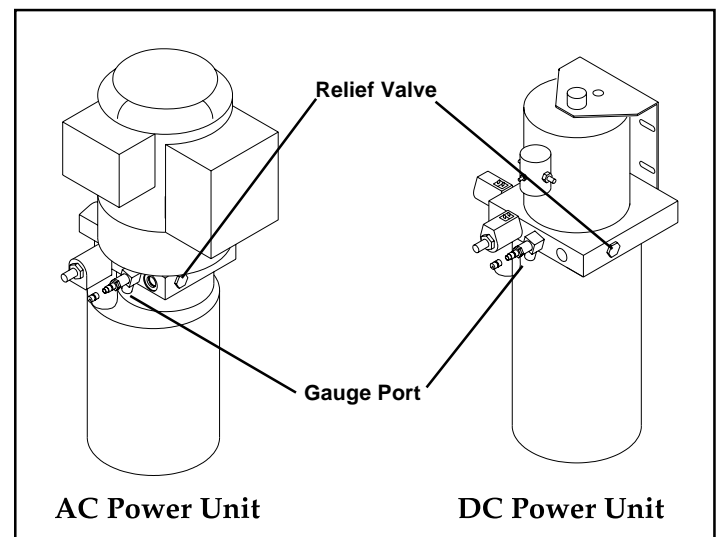

Figure 2-4: System Relief Valve
## 2.4 Setting System Relief Valve (Figure 2-4)
5. Remove the cap from the System Relief Valve (fig. 2-4), and turn the adjustment screw counterclockwise two full turns.
7. Turn the System Relief Valve Clockwise (fig. 2-4) until the machine begins to rise.